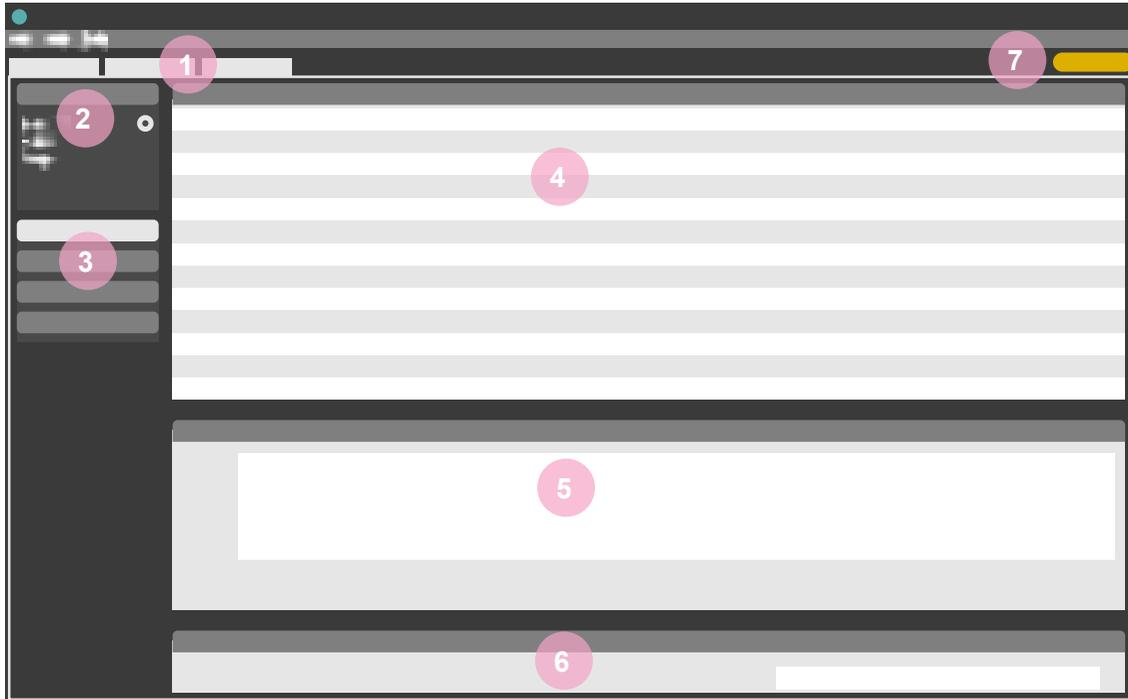

Figure 1. Main window overview.
Connect the instrument to RaySafe View. RaySafe View shows the connected instrument in the instrument panel to the left (2 in Figure 1 on page 4). All new measurements will now automatically show up in RaySafe View.
**TIP!** *You can connect one instrument per tab (1 in Figure 1 on page 4).*